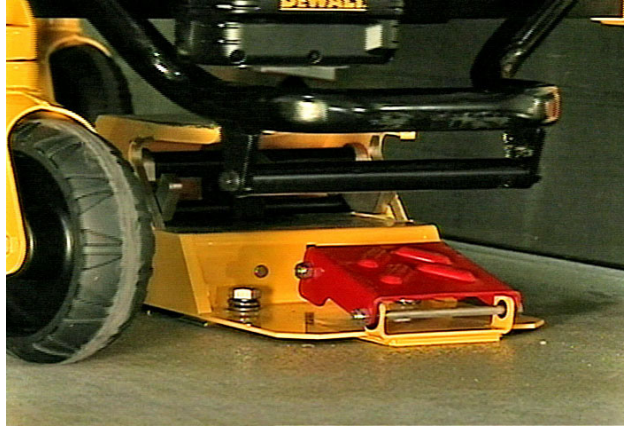

Figure 46 - Pedal fully depressed
1. Before attempting to engage the cot into the fastener, ensure that the pedal is fully depressed and the cot is completely lowered. (refer to Figure 46).